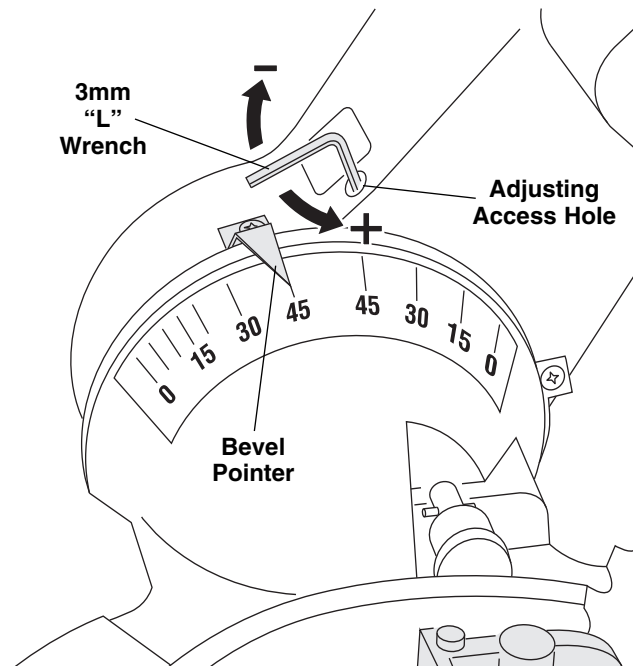

Figure 2. Right 45° Bevel Adjustment
4. Insert 3 mm "L" wrench into hole in vertical support frame. (Figure 2)